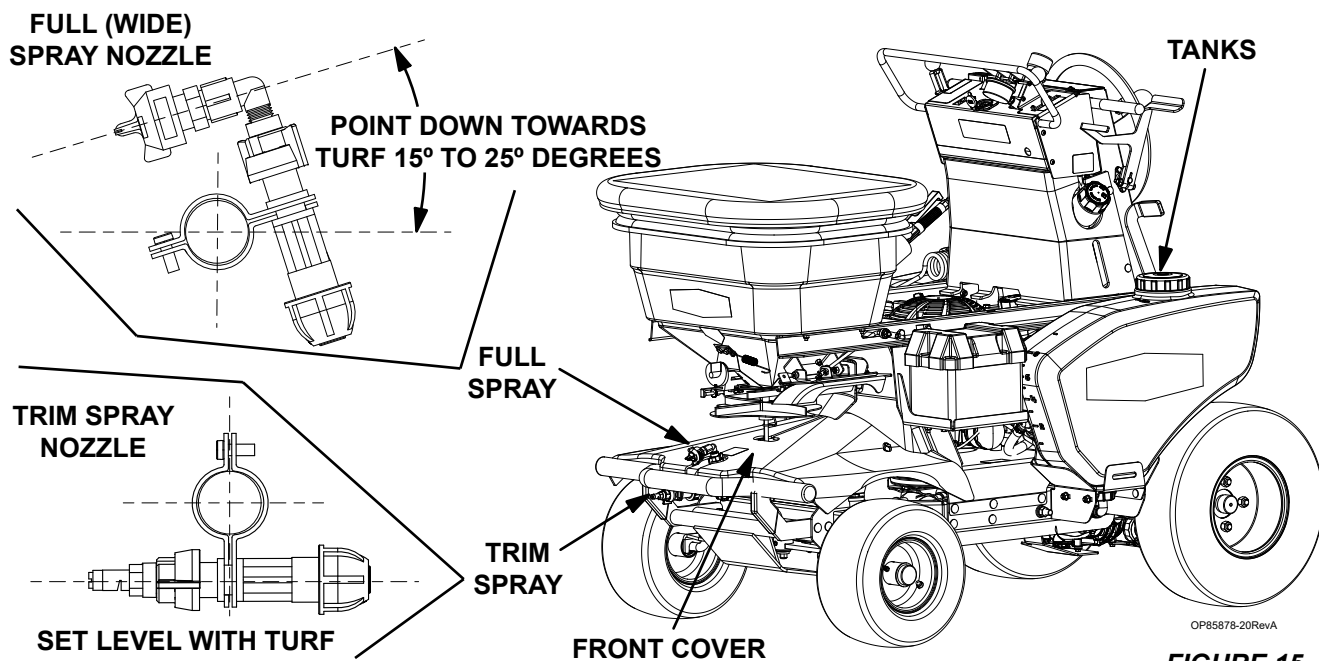

FIGURE 15
**4. TANKS (See Figure 15)** - The Turfco T3200 Applicator has two liquid tanks. Each tank has a capacity of 10 gallons for a total of 20 gallons (75.1 liters). The tanks are connected to maintain an equal balance in both tanks. The product being sprayed is equally pumped from both tanks and any by-pass of product is equally returned to both tanks. The by-pass flowing back to the tanks is the agitation in the tanks to maintain product mix. Liquid solutions are all that are supposed to be used in these tanks. Wettable (soluble) powders may plug the system and should not be used. **PROPERLY MIX THE PRODUCT BEING SPRAYED OUTSIDE OF THE TANKS BEFORE FILLING THE TANKS. TO AVOID CONTAMINATION OF WATER SUPPLIES, NEVER PLACE A HOSE DOWN IN THE TANK.**